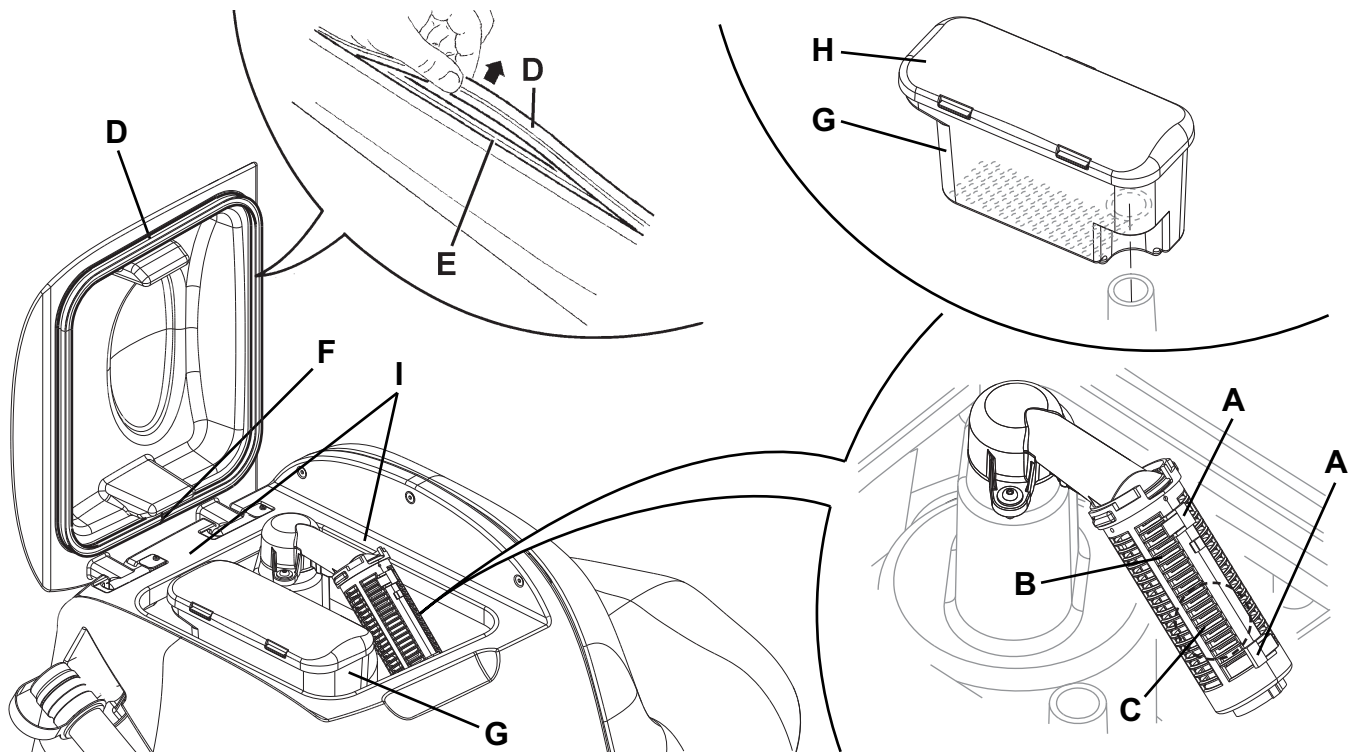

Figure 7
5. Clean the vacuum grid (27), release the fasteners (A, Fig. 7), open the grid (B) and recover the float (C) then clean carefully and reinstall.
6. Clean the container with debris collection grid (26), remove the container (G), remove the cover (H), then clean carefully and reinstall the vacuum hose.
7. Check the tank cover gasket (D) for integrity.